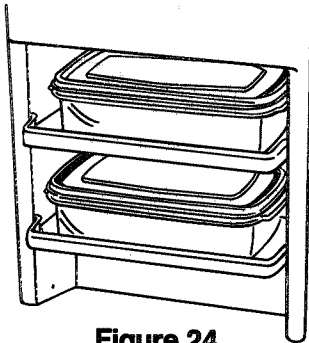

Figure 24
- They store conveniently in this compartment and slide out for easy access. See Figure 24.